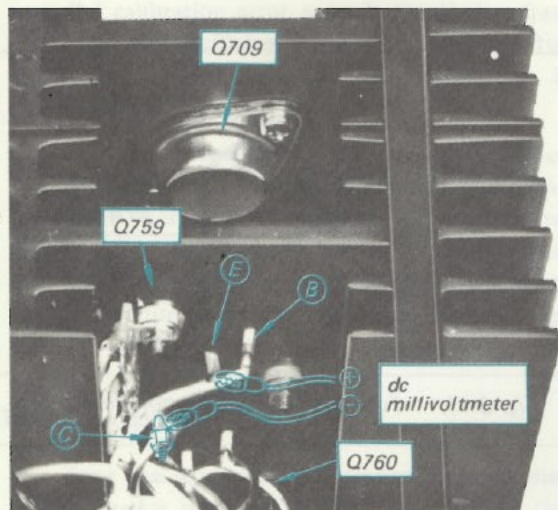

Fig. 3-13. Dc millivoltmeter connection
To avoid accidental power transistor damage, increase the ac line voltage gradually, using a variable transformer, while measuring the voltage across emitter of Q709 (Q759) and collector of Q710 (Q760) as shown in Fig. 3-13 and 3-14. Check to see that the reading does not exceed 50 mV. If it does, turn off the power immediately, then check and repair the trouble in the power amplifier board.
2. Connect the dc millivoltmeter across emitter of Q709 (Q759) and collector of Q710 (Q760) as shown in Fig. 3-13 and 3-14.